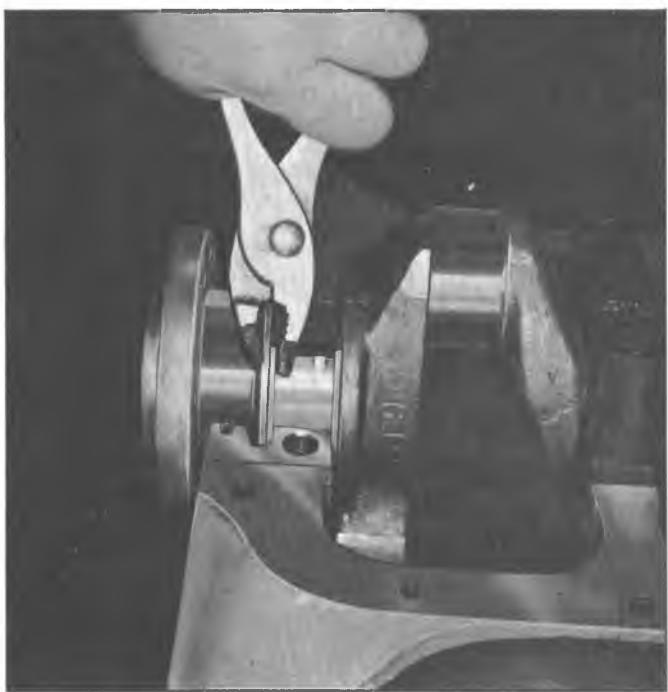

Fig. 42—Replacing Upper Main Bearing (In-Line)
- b. Use a pair of pliers (with taped jaws) to hold the bearing thrust surface to the oil slinger and rotate the crankshaft to remove bearing (fig 42).